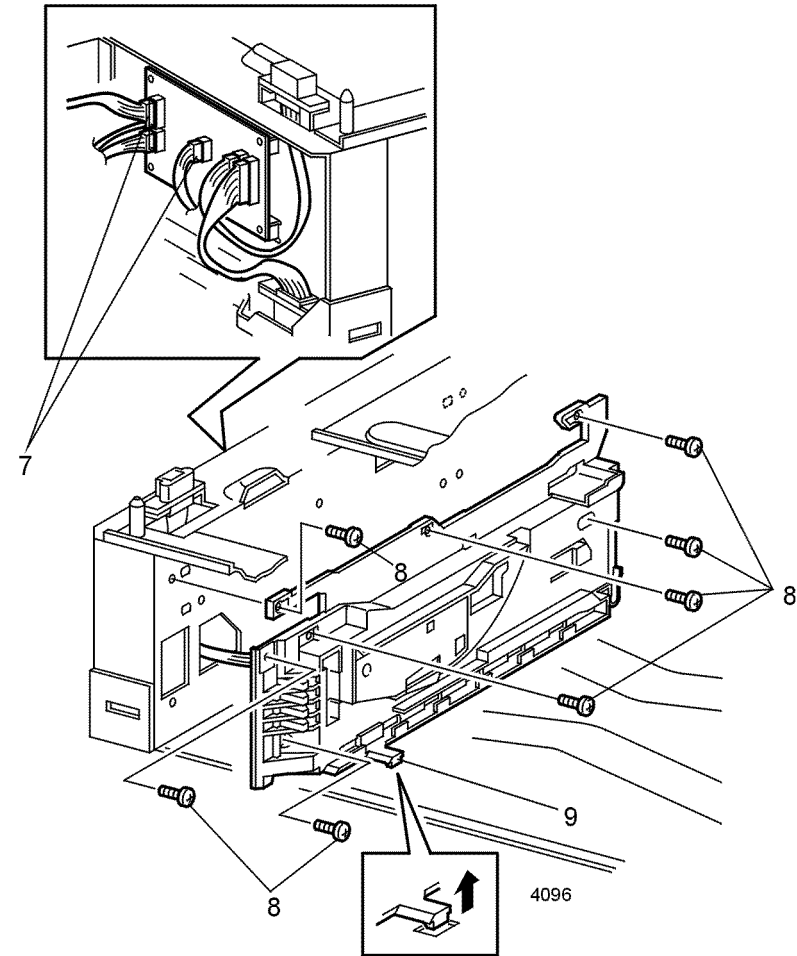

Figure 1 Left Tray Guide
9. Use a small screwdriver to pry up the locking tab (Figure 1).